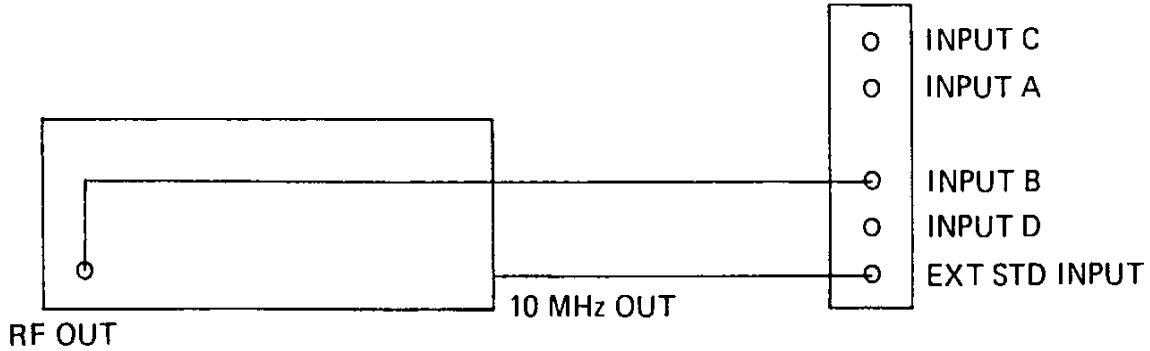

Figure 4-4, Input B High Frequency Sensitivity Test Configuration
4.1.7.4 Connect the Signal Generator to the 2251A as shown in **Figure 4-4**.